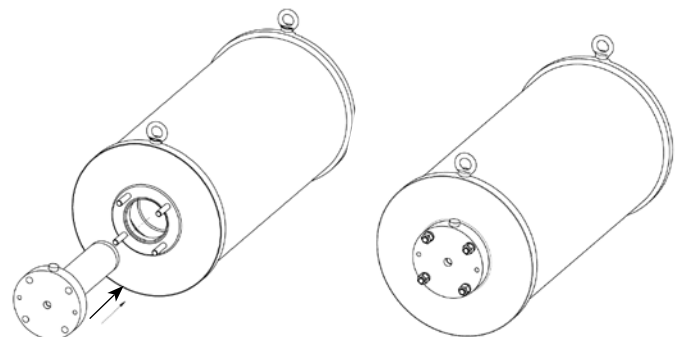

Fig.: 1 Insert Hydraulic Cylinder
- 4.2.3 Thread in the studs (1), from the override mounting kit, into the thrust base and insert the Hydraulic Cylinder into the Spring Module to mate the cylinder flange inner face to the thrust base, keeping the air venting plug to the top (see Fig.: 1).